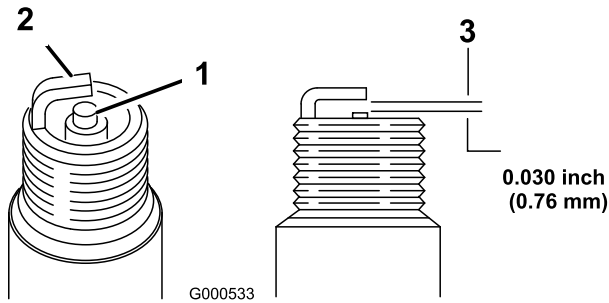

Figure 52
1. Look at the center of the spark plugs (Figure 52).
2. Check the gap between the center and side electrodes (Figure 52) and bend the side electrode, if the gap is not correct.